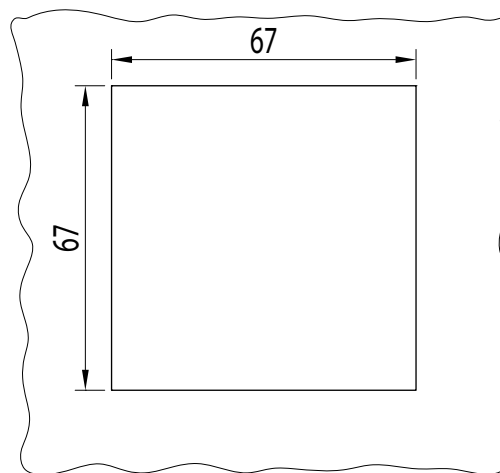

Figure 1: Cut in the panel.
1.- Make a cut in the panel, according to the dimensions in **Figure 1**.